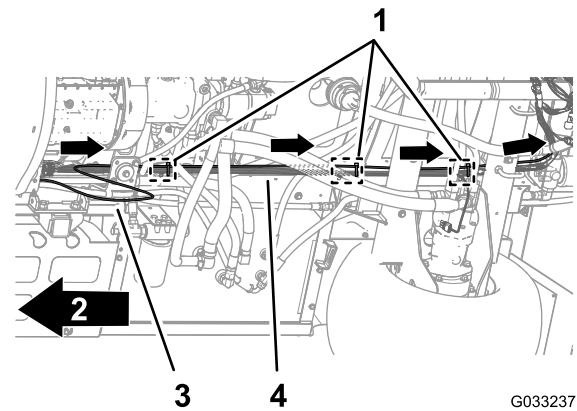

**Figure 110**
- Connect the 10-pin connector of the front wire harness for the sprayer-harness interconnect into the 10-socket connector of the rear wire harness for the sprayer-harness interconnect (Figure 110).